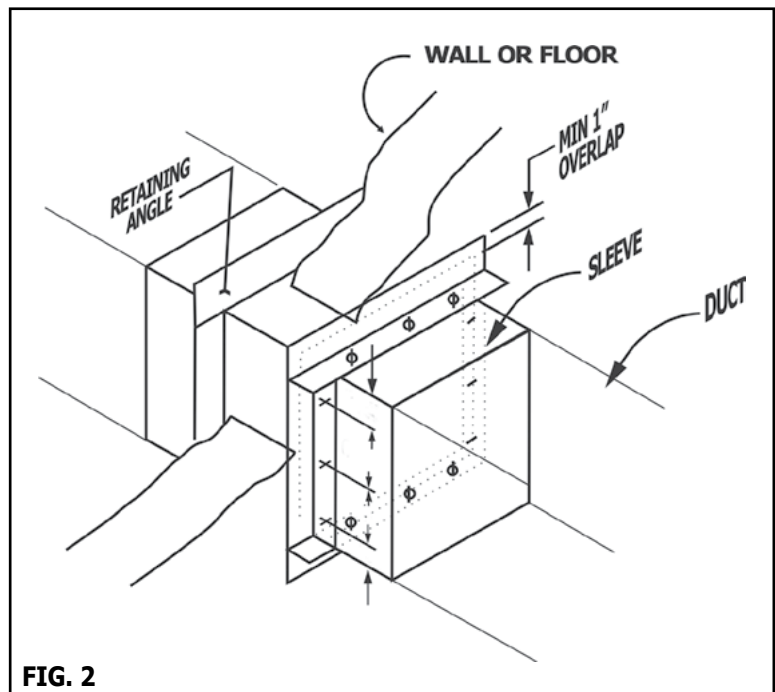

FIG. 2
- Retaining angles must completely cover the clearance space between the sleeve and the wall/floor opening, plus overlap the wall/floor a minimum of 1". This coverage includes all corners (fig. 2).